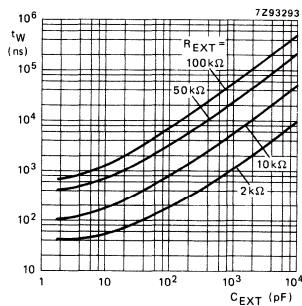

Fig. 9 Typical output pulse width as a function of the external capacitor values at $V_{CC} = 5.0$ V and $T_{amb} = 25^\circ\text{C}$.
An internal connection from $n\bar{R}_D$ to the input gates makes it possible to trigger the circuit by a positive-going signal at input $n\bar{R}_D$ as shown in the function table. Figures 7 and 8 illustrate pulse control by retriggering and early reset. The basic output pulse width is essentially determined by the values of the external timing components R_{EXT} and C_{EXT} . For pulse widths, when $C_{EXT} < 10\,000\text{ pF}$, see Fig. 9.
1. For other R_{EXT} and C_{EXT} combinations see Fig. 9.